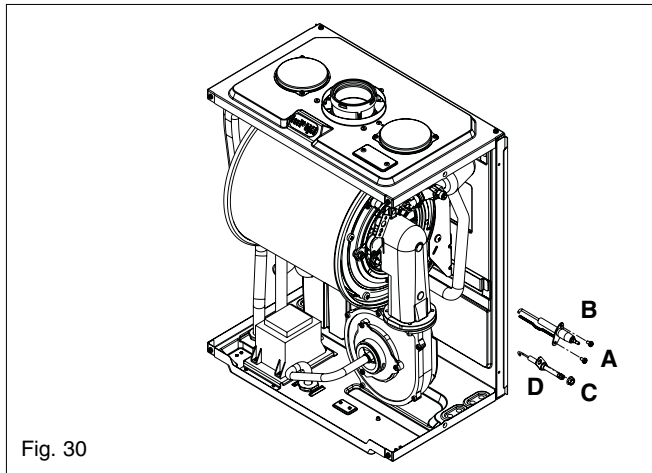

Fig. 30
6.13 ELECTRODE & CONDENSE SENSOR (fig. 30)